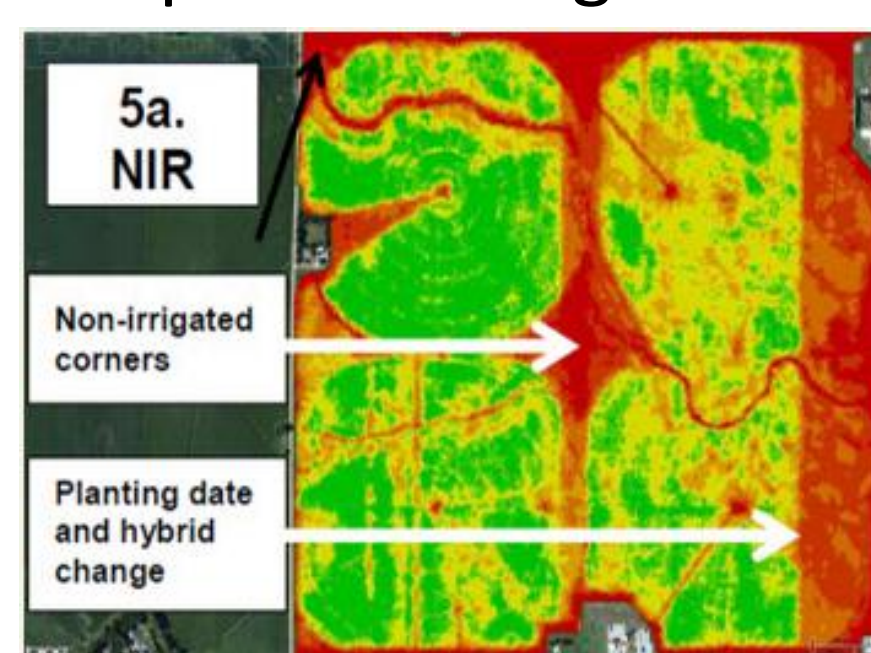

Fig. 7. NIR Analysis of Crops
- Fig. 7: <http://www.pioneer.com/home/site/us/agronomy/library/remote-sensing-imagery/>